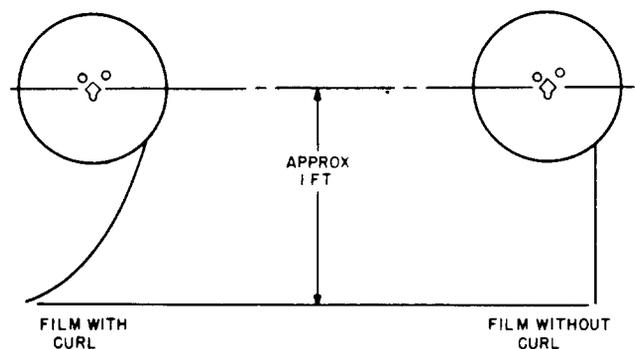

Fig. 7—Checking for Film Curl
- (a) Film must hang straight before mounting. See Fig. 7. Rewind the film with the curl reversed if any curl is present.